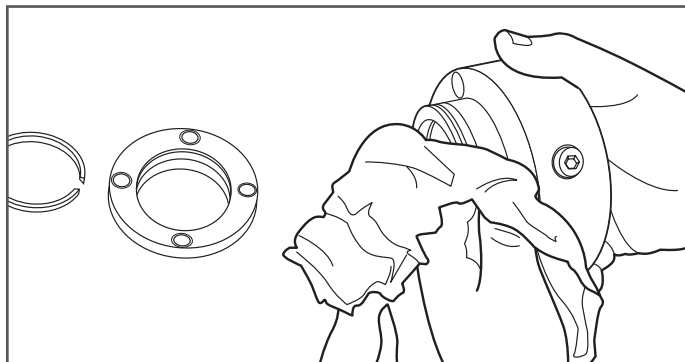

Figure 9-2
2. Prior to reattaching DoubleTrac® fitting, thoroughly wipe clean all fitting components (Figure 9-2).